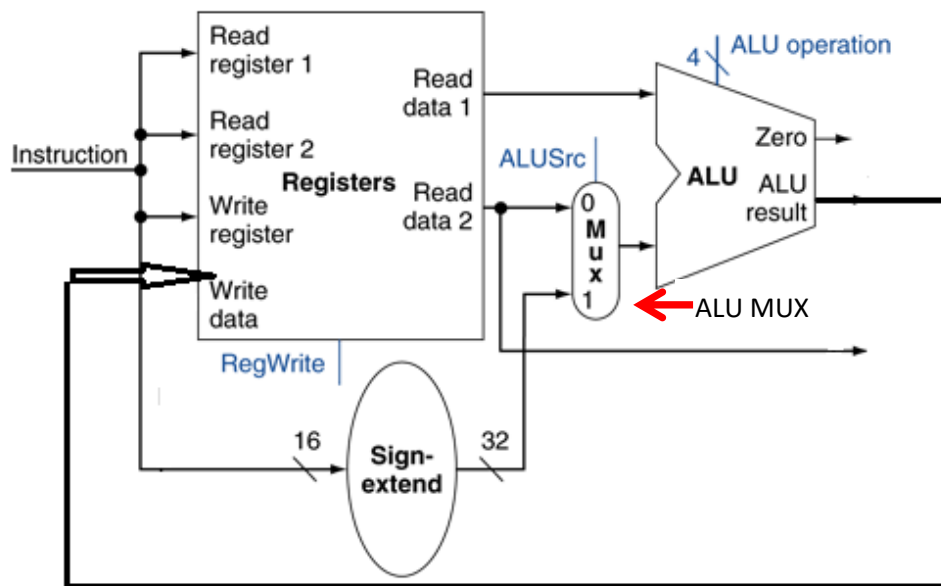
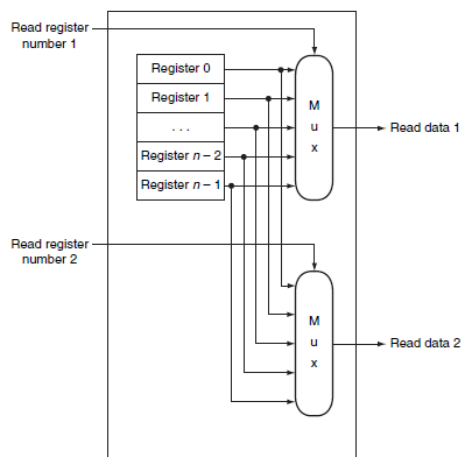
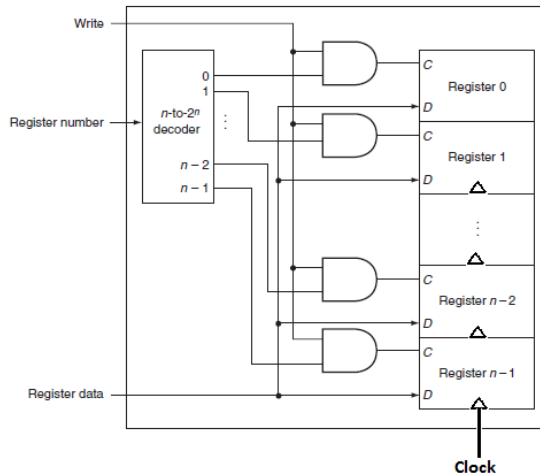

Figure 1.
Figure 2. Read Unit
Figure 3. Write Unit
The block diagram of *read unit* of register is provided in figure 2. This unit shows 32 registers of 32 bits each (Register 0 to Register (n-1), with $n = 32$). The select signal to the mux is the operand from the instruction memory (which you implemented in phase 1 of the project). This signal is same as Read register 1 and Read register 2 in Figure 1.
The block diagram of the *write unit* of the register file is provided in Figure 3. Write unit has four input signals. Clock, Write (which is same as RegWrite in Figure 1), Register Number, which is same as input connected to the write register in Figure 1 and Register data, which needs to be connected to the Write data port of Figure 1. Also notice that each Register has three inputs, C, D and Clock. The C input acts as an enabling input of the register (enable the write port of the specific register), and write at the positive edge of the next Clock signal. The clock signal is the master clock at which the register writes the data. D is 32-bit input data coming from the data memory (Register Data). And n to 2^n decoder shows 5 to 32 decoder.
2. Cannot use megafunctions or IPs for ANY block shown in Figures 1, 2, 3. **Integration of previous phase is a requirement**, and IM in phase 1 is using IP.
4. Register file unit should be implemented as shown in the Figure 2 and Figure 3 (distinctly provide the codes for decoder, multiplexer and registers).